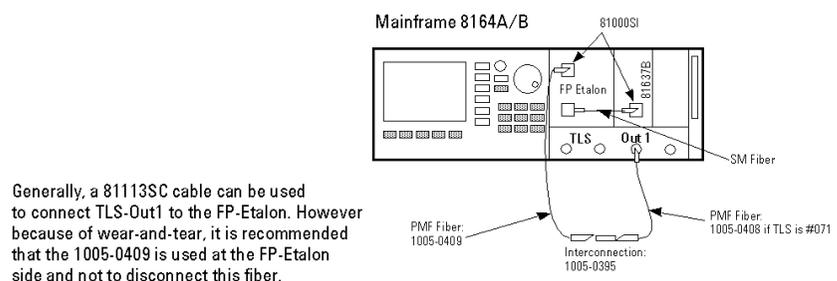

Figure 42 Setup for wavelength uncertainty verification in swept mode
- 2 Connect the equipment as shown in Figure 42.